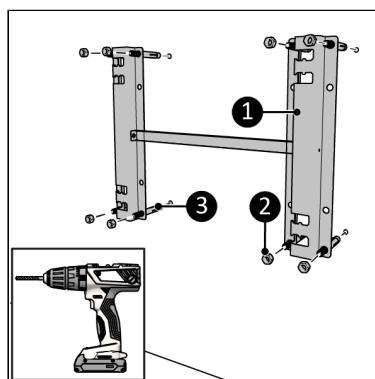

Figure 32.
1. Place the bracket against the wall, with the bracket openings at the left and mark the eight holes (Figure 32).
3. Place the anchor bolts (Figure 32, pos. 3).
4. Tighten the wall bracket (Figure 32, pos. 1) to the wall with the eight nuts (Figure 32, pos. 2).